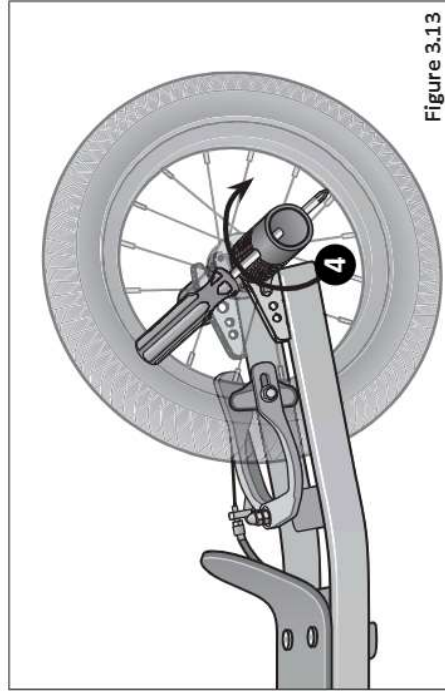

Figure 3.13
- 4** Insert a screwdriver or similar tool through the peg holes and tighten by turning the peg with the tool. **Figure 3.13**